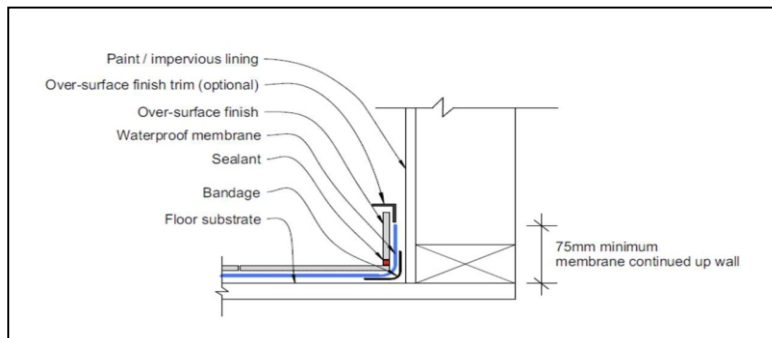

Figure 21: Waterproof membrane system behind skirting
- ◆ Figure 21: Waterproof membrane system behind skirting